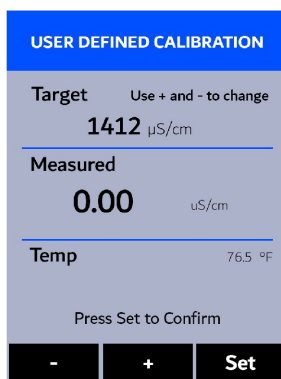

Figure 21.
5. Press (**<**) to launch the **USER DEFINED CALIBRATION** screen (Figure 21).